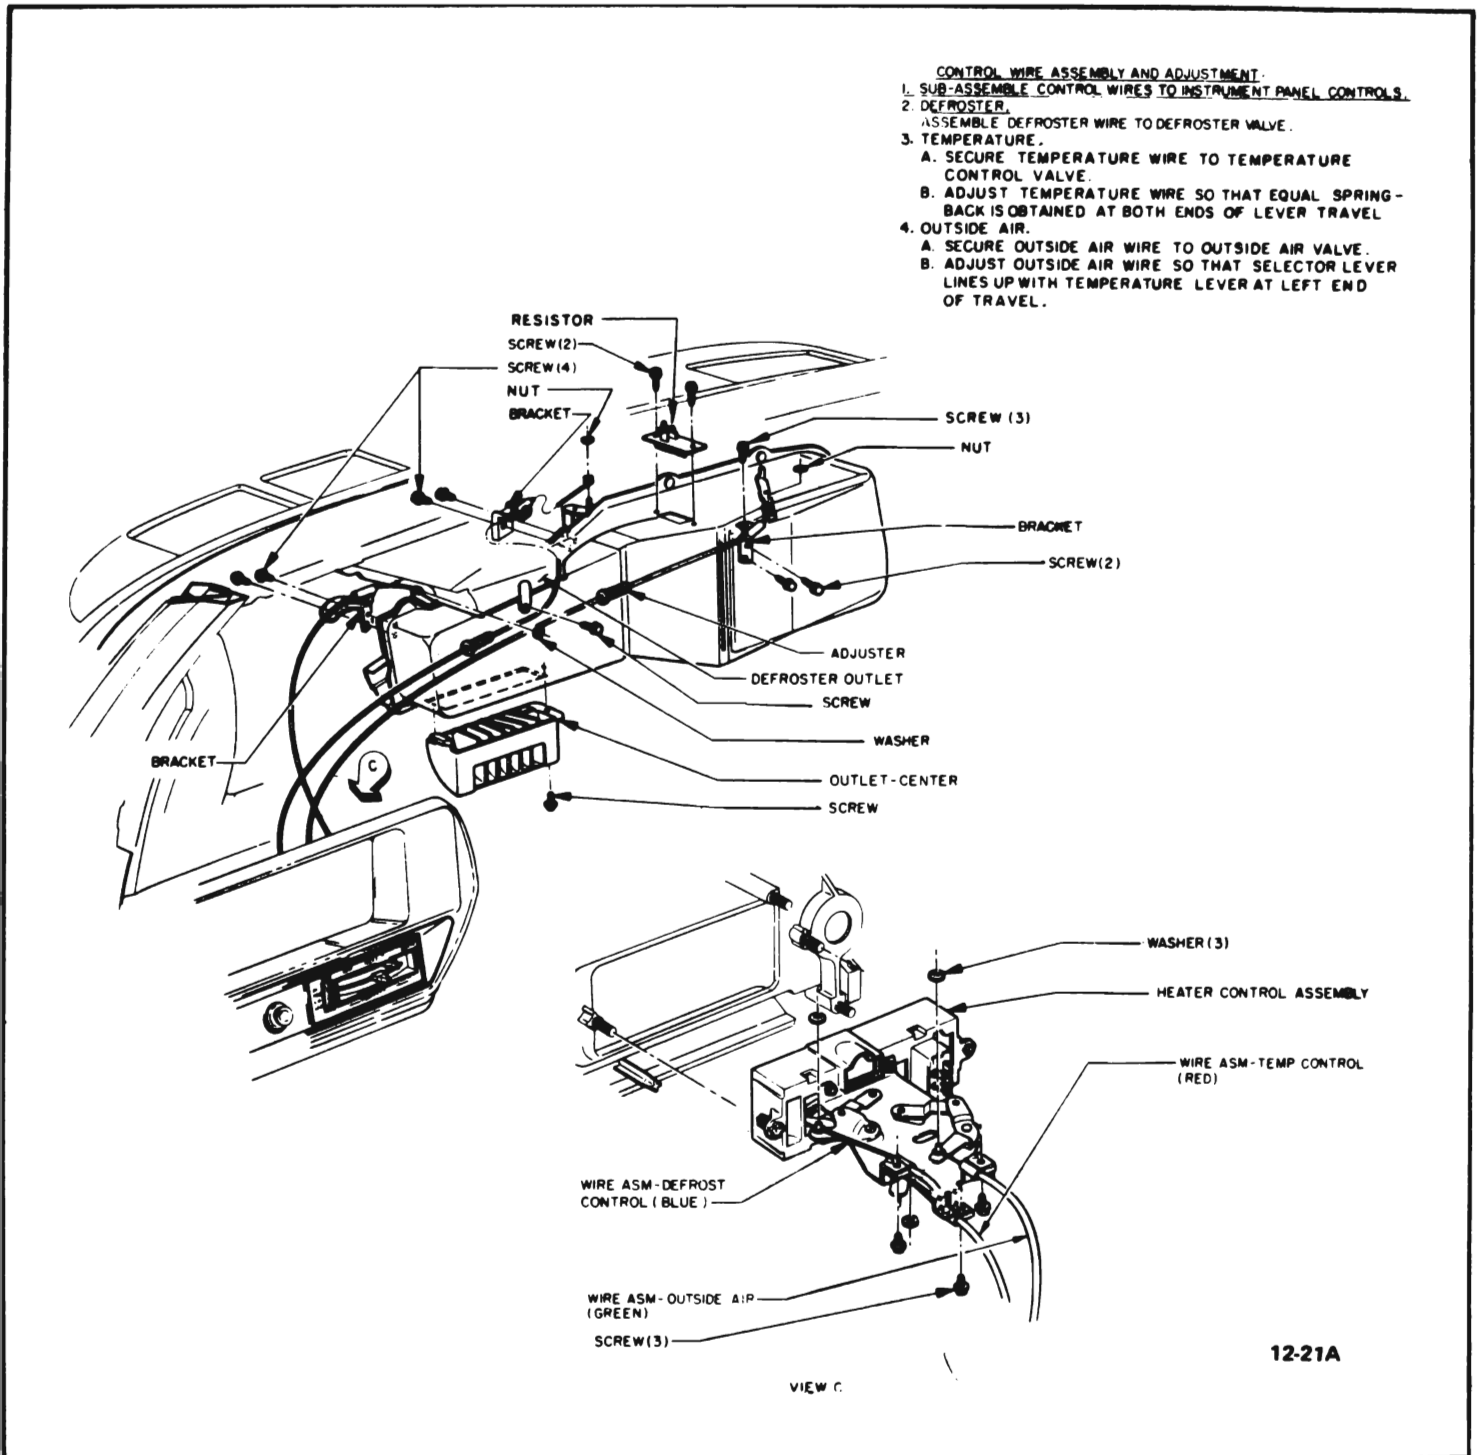

Figure 12-1 Heater Control and Wire Installation
To adjust, position the TEMPERATURE lever to the "COOL" position and rotate the control cable adjuster nut until equal springback is obtained at both ends of lever travel. See Figure 12-1.
To adjust, position the **TEMPERATURE** lever fully to the left, then position the **HEATER** lever to the "OFF" position and rotate the control cable adjuster nut until **HEATER** lever aligns with **TEMPERATURE** lever. See Figure 12-1.
3. Heater Control Assembly - The heater control assembly (see Figure 12-1) consists of three controls, namely the TEMPERATURE lever, outside air-HEATER lever, and FAN switch.
3. Disconnect control cables from lever of defroster door and outside air inlet door on heater assembly. See Figure 12-1.